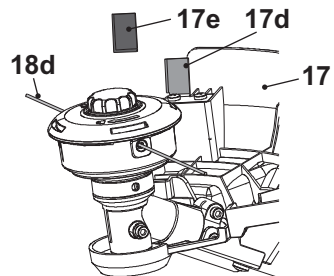

Fig. 18
The guard (17) protects the operator against thrown objects during operation. It is equipped with a knife (17d) that cuts the trimming line (18d) (Fig. 18).